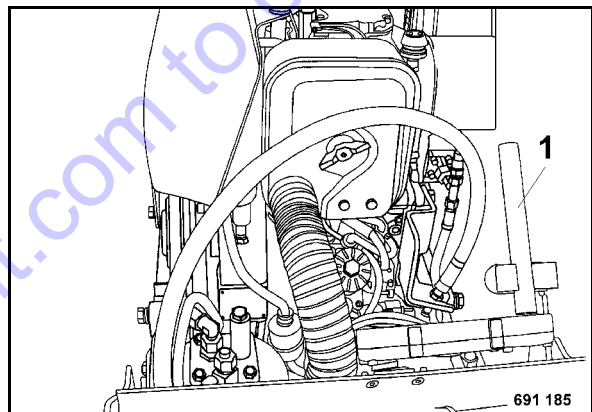

Fig. 26
- Take the safety crank handle 1 (Fig. 26) out of the bracket.